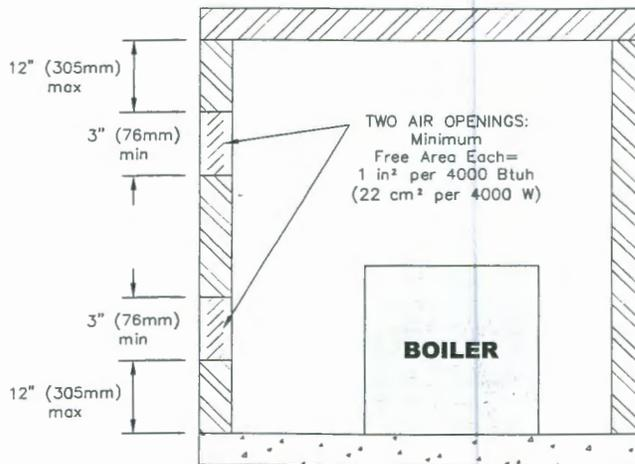
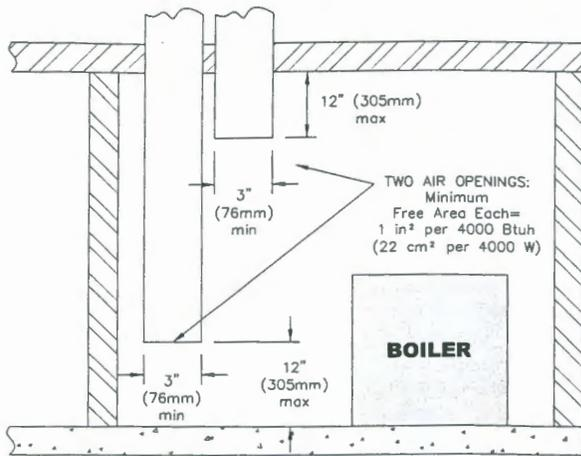

Figure 1.3: Air Openings - All Air Directly from Outdoors
Figure 1.4: Air Openings – All Air from Outdoors through Vertical Ducts
- i. Where communicating directly or through vertical ducts with the outdoors each opening shall have a minimum free area of 1 in² per 4000 Btu/hr (22 cm² per 4000 W) of total input rating for all equipment in the space. See Figure 1.3 for openings communicating with the outdoors or Figure 1.4 for openings connected by ducts to the outdoors.